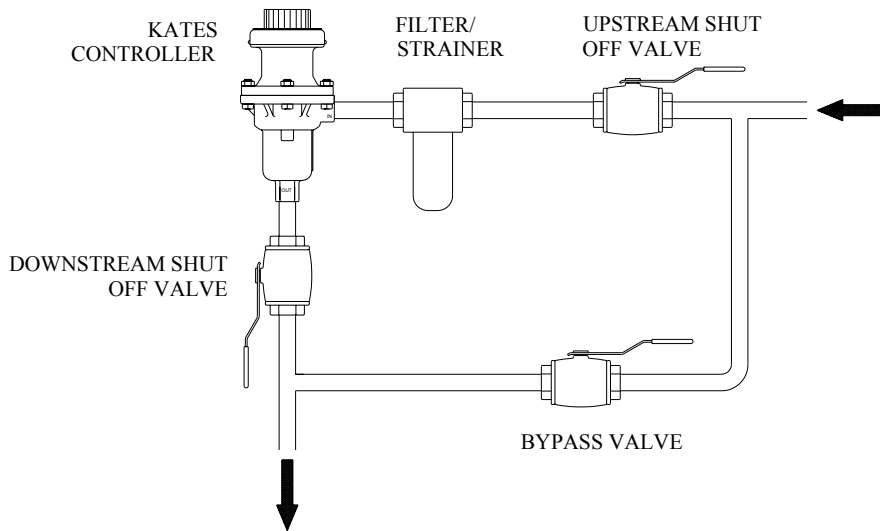

Figure 3
2. Upstream and downstream shutoff valves and a bypass valve should be installed so that the controller may be opened for inspection and cleaning without requiring complete system shutdown. (See fig. 3)
5. Place controller in service by opening upstream and downstream shutoff valves and closing the bypass valve around the controller. Controller will now regulate the flow rate at the set value. (See fig. 3)
2. It is not necessary to remove the controller from the line to clean. If installation includes proper shutoff and bypass valves, operate these and take controller off stream or control. (See fig. 3)